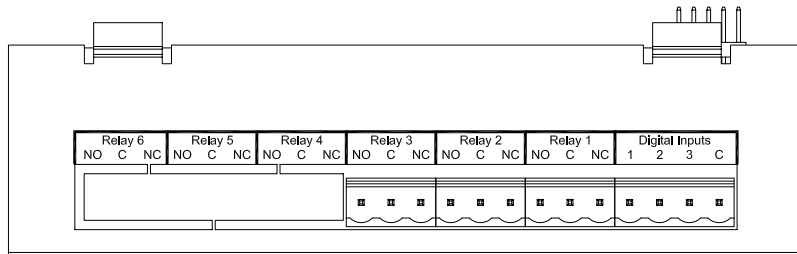

Figure 2-8 Mechanical Relay Connections (3 Channel Shown)
The Recorder may be equipped with an optional Digital Input Output Board which has three or six potential free Form C relay contacts and three opto-isolated digital inputs. A terminal block as shown in Figure 2-8 below is provided for the three alarm output Potential Free Form C connections: Normally Open (NO), Common (C), and Normally Closed (NC), and the three digital inputs which share a common. The relay contacts are capable of switching 125 Vac ~ at 0.5 Amp or 30 Vdc at 0.5 Amp. The potential free relay contacts are protected internally with 300 volt Metal Oxide Varistors (MOVs) to prevent contact arcing.